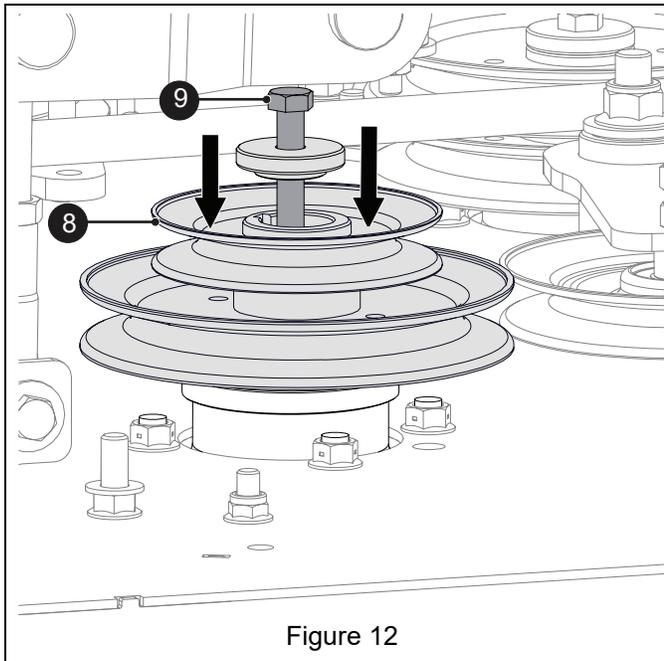

Figure 12
1. Install double pulley (item 8) on spindle. Retain pulley with 3/8" x 2 3/4" bolt (item 9) and torque to 54 N•m – 66 N•m (40 lb-ft – 49 lb-ft). See Figure 12.